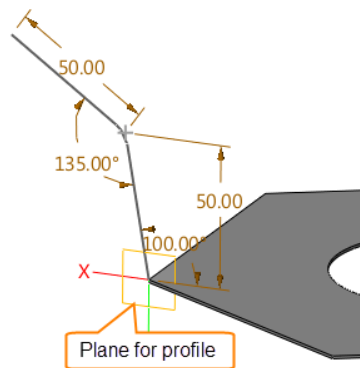

Figure 38 Profile for Swept Flange along discontinuous Path
STEP 02 Create profile on assigned datum, as shown in Figure 38.